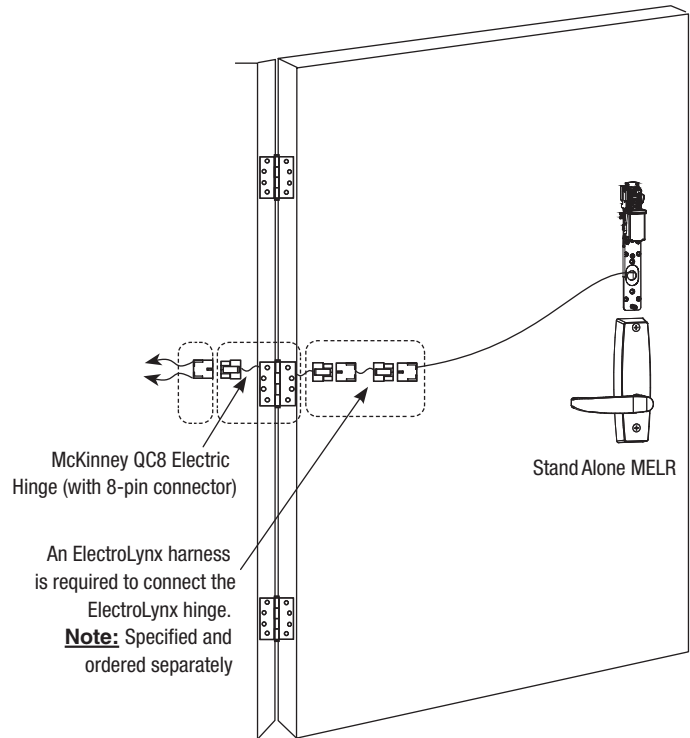

Fig. 15- POWER MODE Installation
2. Connect the ElectroLynx harness in the door (Figure 15, POWER MODE Installation):